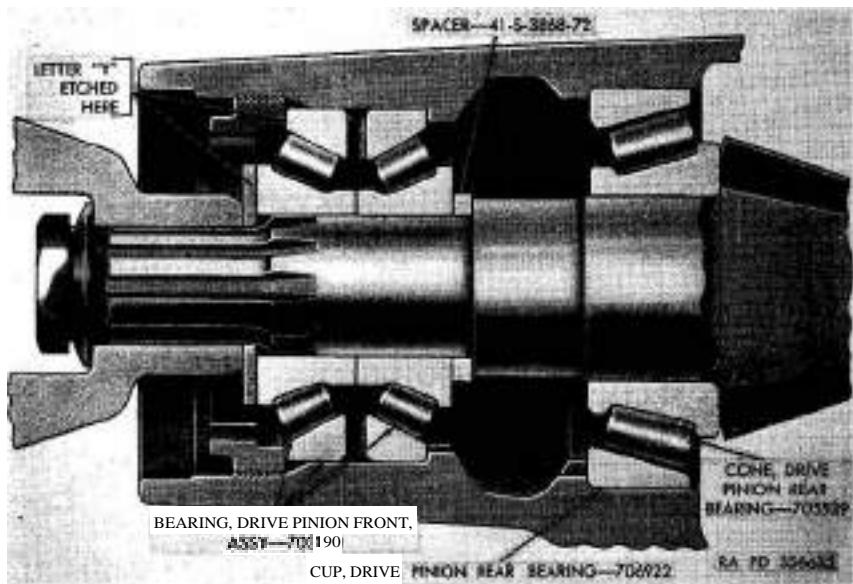

Figure 83. Location of spacer for checking drive pinion front bearing assembly.
Note. If a letter "Y" is etched on the narrow edge of the front bearing cup (fig. 83), the cup must be installed with the letter "Y" toward the front of the carrier (oil seal end).
Note. A letter "Y" is etched on the face of the outer cone (fig. 83) and this cone must be placed in the oil seal end of the drive pinion carrier.
Note. Lack of preload in a front bearing assembly that has been in service is not an indication that a replacement of the bearing is necessary. If a front bearing assembly (fig. 83) that has been in service is in good condition, no perceptible end play is evident, and the bearing cup and two cones are clean and dry (no lubricant) when assembled in the carrier housing, the bearing is satisfactory.
- (2) Place spacer 41-S-3868-72 (fig. 83) and drive pinion front bearing inner cone on drive pinion.
Note. Spacer 41-S-3868-72 (fig. 83) is thicker than the service drive pinion bearing spacers and prevents drive pinion rear bearing cone rollers from contacting drive pinion rear bearing cup when the front bearing assembly is checked.
- (5) Remove drive pinion from carrier. Remove front bearing inner cone and spacer 41-S-3868-72 (*fig. 83*) from drive pinion.